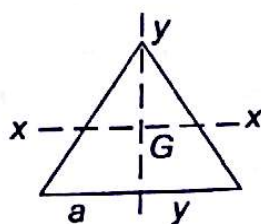

Fig. 8.16
8.1 Fig. 8.16 shows an equilateral triangle with side a . xx and yy are centroidal axes. If $I_{xx} = 100 \text{ cm}^4$, what is I_{yy} ?